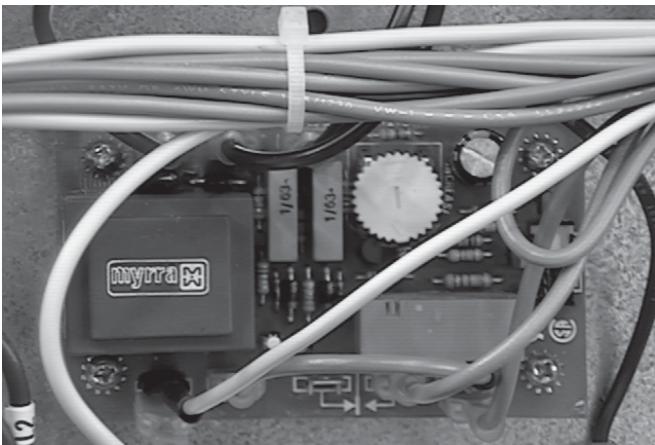

Figure 28. Liquid Level Control
1. Identify and remove the wires. Figure 28.